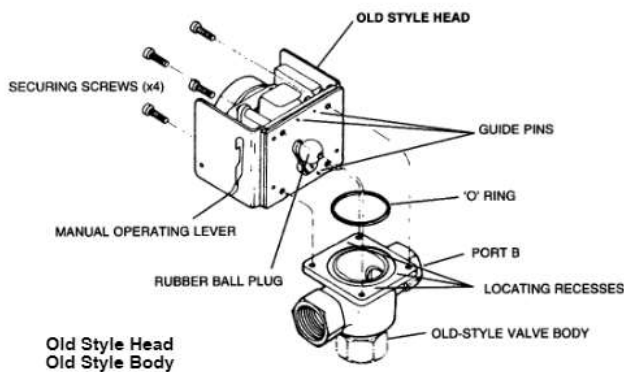

Fig. 2. Removing Powerheads
4. Remove the four screws that secure powerhead to the valve body and remove the powerhead and O-ring. (See Fig. 2.)